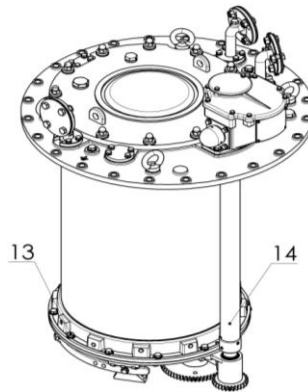

Fig. 14
- Unscrew the bolts at the bottom of the cylinder (Pos. 13, Fig. 14).
5.3.3. The installation of the cylinder is performed in a reverse sequence. The gasket at the bottom should be replaced with a new one. Make sure that the cylinder is oriented in the right direction, so that the driving shaft (Pos.14, Fig. 14) comes to stand in a perpendicular position vis-à-vis..... The bolts (Pos. 13) should be tightened with a torque of 25 Nm.